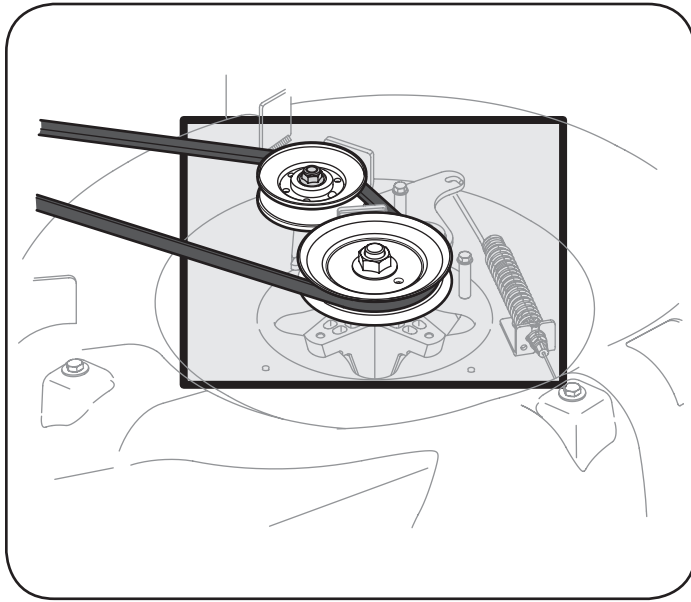

Figure 3
- Clean the top of the mower deck, under the spindle covers and belt area. See “Figure 3”.
- Clean around and near the transmission, axle and the fan area. See “Figure 3”.